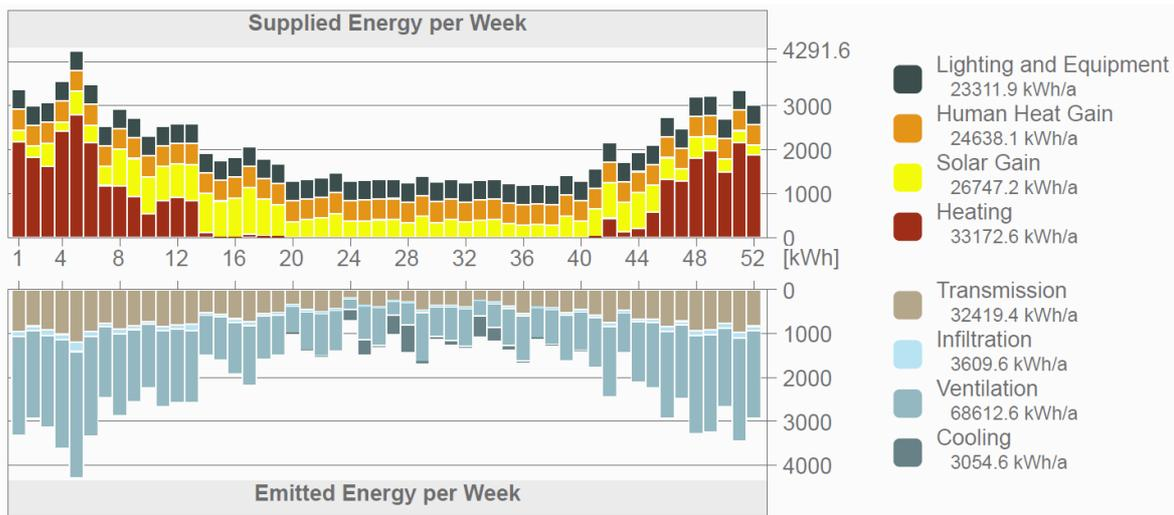

Fig. 1: Project Energy Balance diagram of the final building energy evaluation report
Throughout the last step of the low-energy building design workflow we incorporate the combined, energy-related performance of the previously selected low-energy building solutions sets and validate the building energy performance of the final architectural design. This paper presents a design toolset that can be efficiently used within a BIM solution (5), without the necessity to buy, install or learn any other building-energy specific application. Multiple thermal blocks can be created incorporating the thermal properties of the designed building materials and structures. Structural details with thermal bridges will be identified and improved. Various operation profiles will be created and assigned to spaces having identical functions. The combined effect of the previously selected, project-specific, low-energy building solution set is displayed in the final, customizable building energy evaluation diagrams (Fig.1).